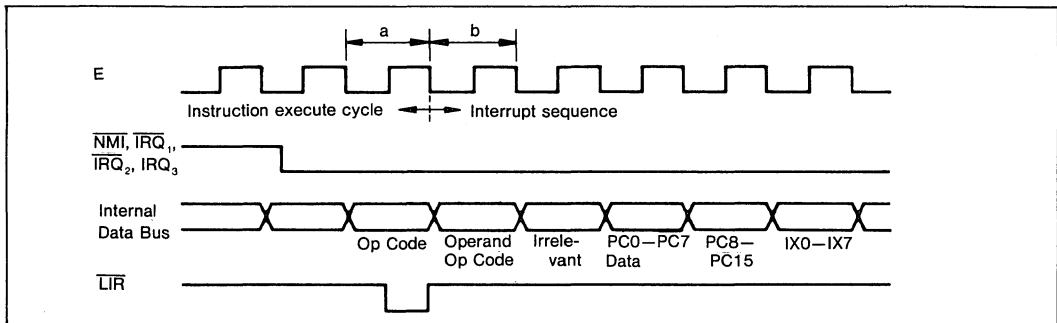

Figure III-9. Last Cycle Before Interrupt
1. Last instruction execution cycle just before the interrupt sequence (figure III-9).